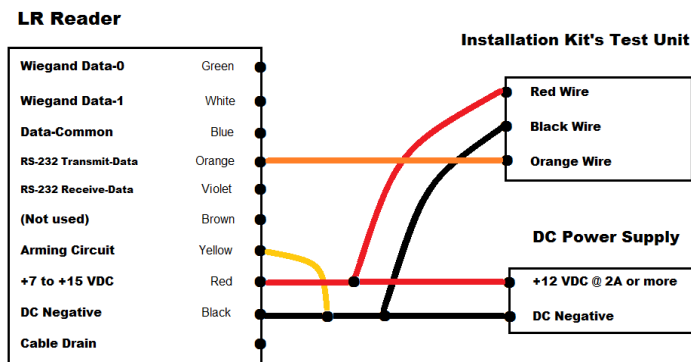

Figure 1. Test Unit Wiring.
2. Set up the Kit's **EVAL** reader. Clip the Kit's Test Unit to the EVAL reader. Clip the Kit's plug-in DC power module, or a back-up battery, to the EVAL reader's wires. To arm the EVAL reader, connect its **yellow** wire to the **black** wire. (A camera tripod is very convenient for supporting the reader during testing, hands-free, up to a height of 6 feet.) See Figure 1 (page 4) for clip connections of **black**, **red**, **orange** and **yellow** wires.